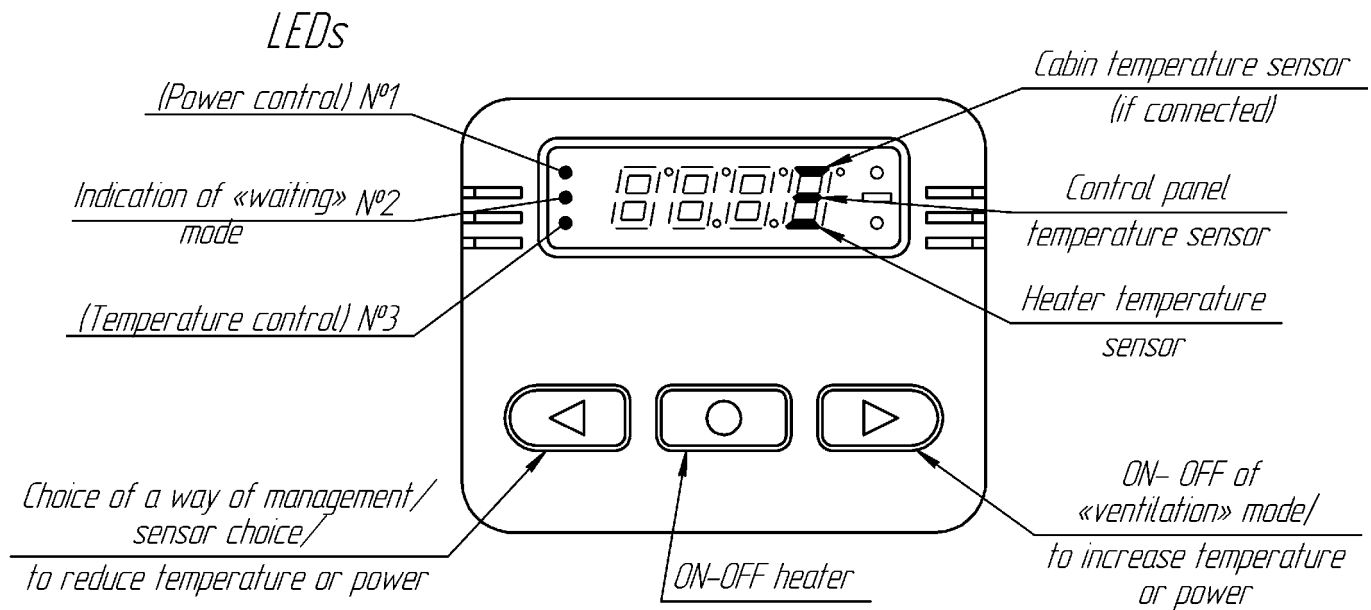

Fig. 6.2- Control panel «IIY-16M»
6.2.1 The front board of the panel contains: four-digit light emitting diode (LED) indicator, three LEDs and three knobs. Functionality of the knobs and LEDs. (fig.6.2)
While first time the heater is connected to electric circuit of the car or after breaks of power supply, according to environmental temperature there will be following information on the panel (for example)- the temperature in the area of the sensor installed in the heater is -12°C, if the temperature in the area of the sensor is above zero, there will be no "mines" before the figure. Movement according to the main menus is carried out by the button «↔» (fig.6.2)